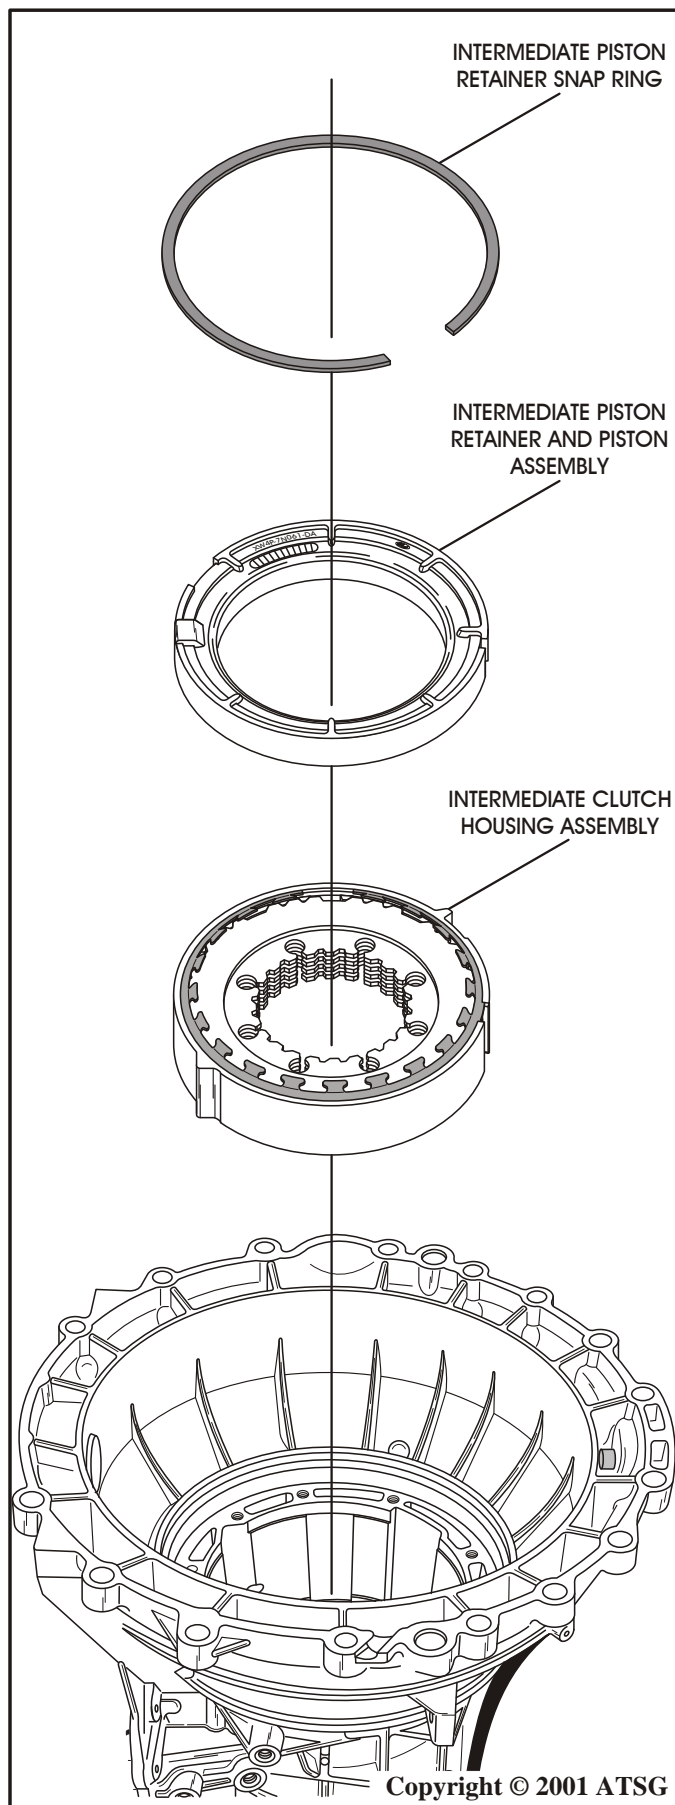

Figure 50
58. Compress the intermediate clutch return spring and remove the "Flat" retaining snap ring for intermediate clutch piston retainer, as shown in Figure 50.
60. Remove the intermediate piston retainer and piston assembly and set aside for component rebuild section (See Figure 50).
61. Remove the complete intermediate clutch pack assembly, as shown in Figure 50, and set aside for component rebuild section.